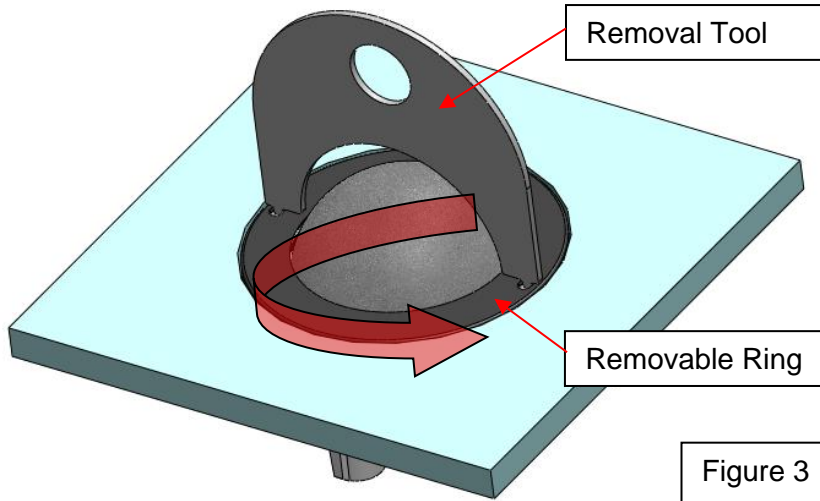

Figure 7 – Unlocking the removal ring
- Insert the appropriate removal tool (supplied separately) into the removable ring location holes. Twist the removable ring anti-clockwise – as the tool is rotated the removable ring will rise above the panel - see figure 7.